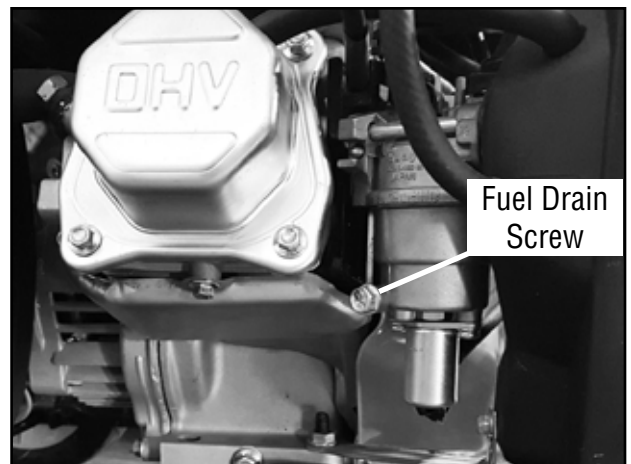

Fig. 14 - Draining the Carburetor
Proper routine maintenance of the generator will help prolong the life of the machine. Please perform maintenance checks and operations according to the Maintenance Schedule in Fig. 14. If there are any questions about the maintenance procedures listed in this manual, please call (800) 232-1195 M-F 8-5 CST or email techsupport@wenproducts.com.
Check the oil level before each use and every 8 hours of operation (refer to Fig. 14).
Change the oil according to the Recommended Maintenance Schedule in Fig. 14.
Check every 50 hours of operation (refer to Fig. 14 - Recommended Maintenance Schedule).
Refer to Recommended Maintenance Schedule in Fig. 14 for maintaining the spark plug.